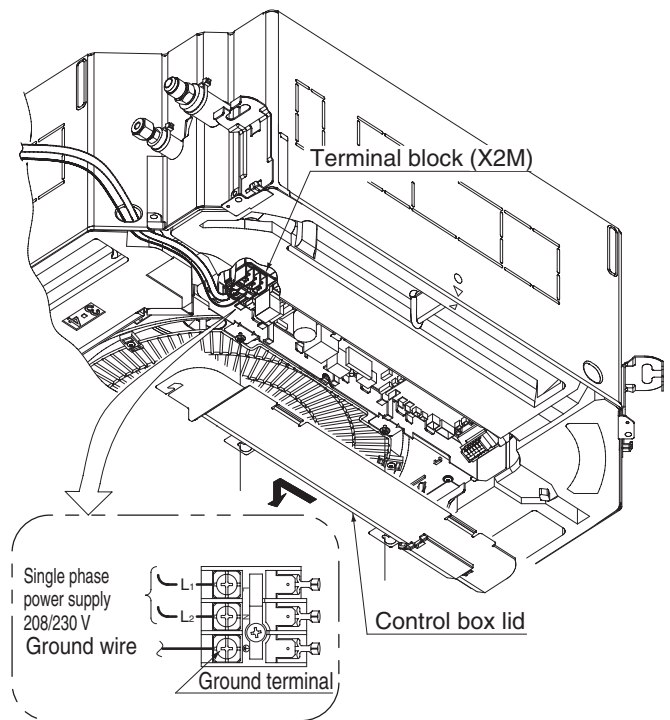

Fig. 21
1. Open the control box lid and connect the single phase 208 - 230 V power supply to the terminal (L₁, L₂) on the terminal block (X2M). Connect the ground wiring to the ground terminal. (Refer to **Fig. 21**)